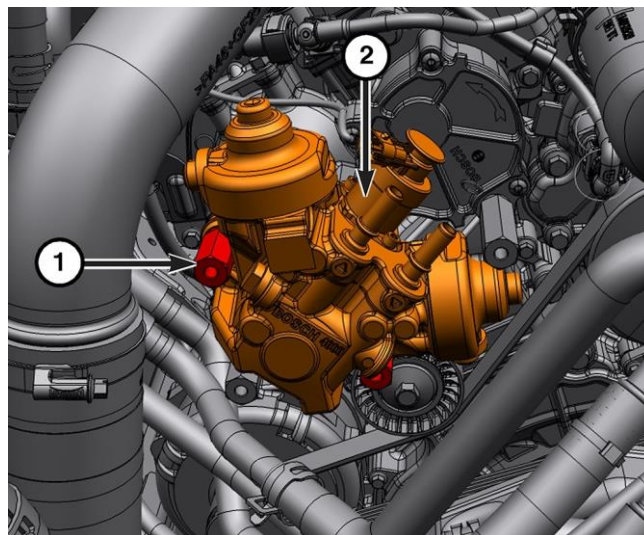

Figure 83 – HPFP Upper Bolts
7. Remove the upper bolts (1) from the high-pressure pump (2) (Figure 83).
23. Install the Tool, High Pressure Pump Installation VM.10345 into the studs installed in the upper timing cover and install the HPFP to the engine (Figure 83).
24. Install the lower fuel injection pump (2) and hand tighten the bolt (1) (Figure 83).